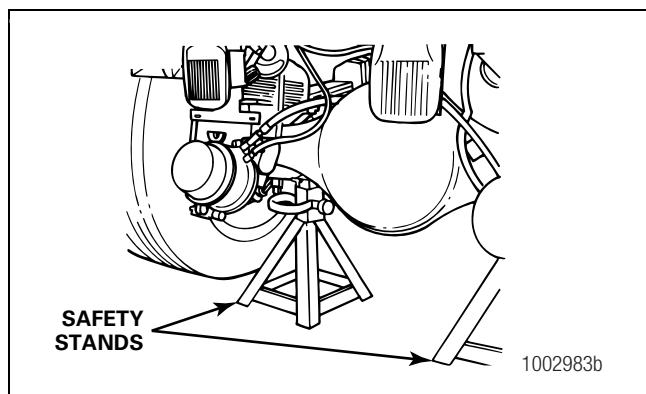

Figure 3.1
1. Park the vehicle on a level surface. Block the wheels to prevent the vehicle from moving. Figure 3.1.
2. Use a jack or other lifting tool to raise the vehicle so that the wheels to be serviced are off the ground. Support the vehicle with safety stands. Figure 3.1.